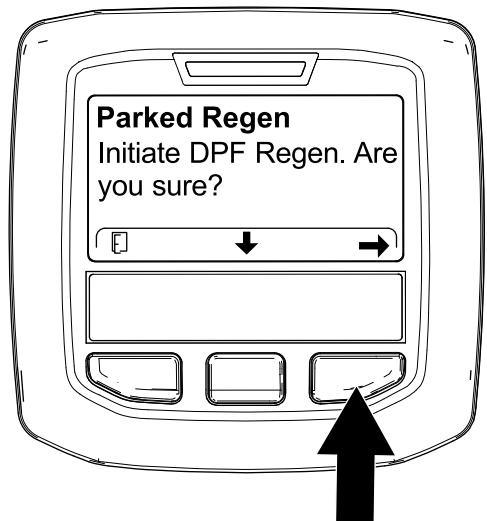

Figure 59
- At the INITIATE DPF REGEN screen, press the right button to continue (Figure 59).